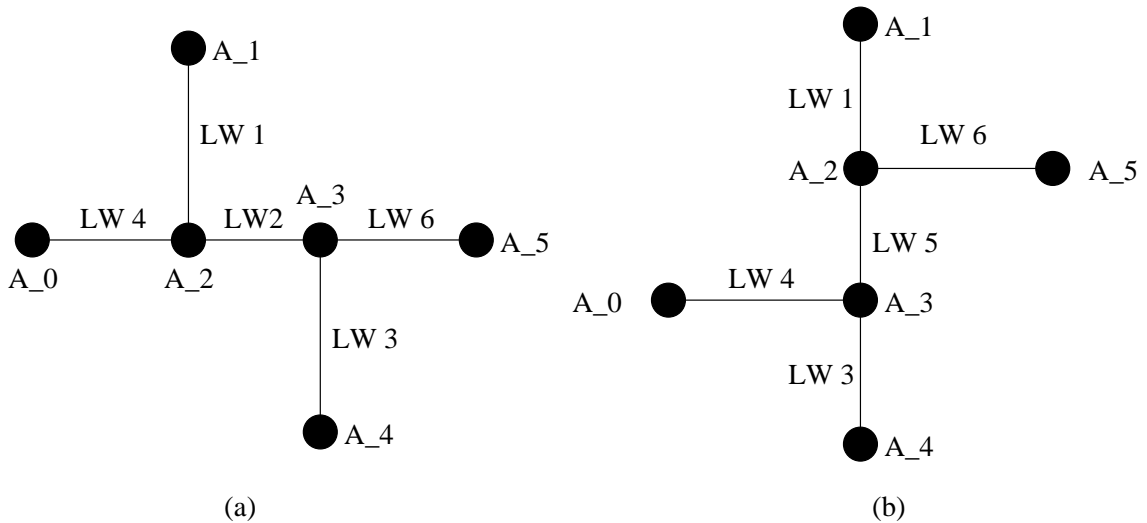

Figure 4.12: (a) The merged graph containing length-width 2, and (b) the merged graph containing length-width 5.
- Figure 4.11 (a) shows a circuit configuration which the break extractor cannot properly handle, and Figures 4.11 (b) and (c) show the length-widths extracted during the two sweeps. Figures 4.12 (a) and (b) show the two possible graphs the break extractor can generate1. Notice that the graph in Figure 4.12 (a) contains the edge for length-width 2 but no edge for length-width 5, and the graph in Figure 4.12 (b) contains an edge for length-width 5 but no edge for length-width 2. The breaks caused by length-width 2 and 5 cannot both be represented in the same graph by the break extractor, and are called **conflicting** breaks. Carafe resolves conflicting breaks by throwing out the one with the smaller critical area. If they both have the same critical area, as was the case Figure 4.11 (a), Carafe will randomly delete one. As a result, Carafe may not throw out the same break from one extraction of a circuit to the next. When Carafe finds a conflict during break extraction, it will issue a warning: